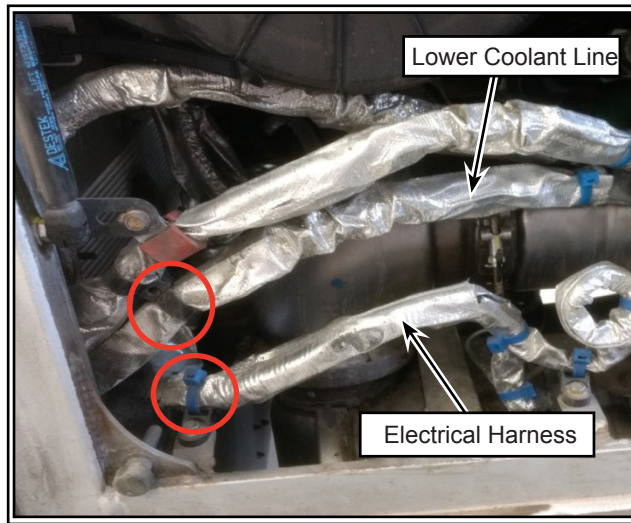

Figure 9 - Removal of Tie Wraps
1.12. Remove and discard the tie wraps holding the electrical harness and lower coolant line (see Figure 9).